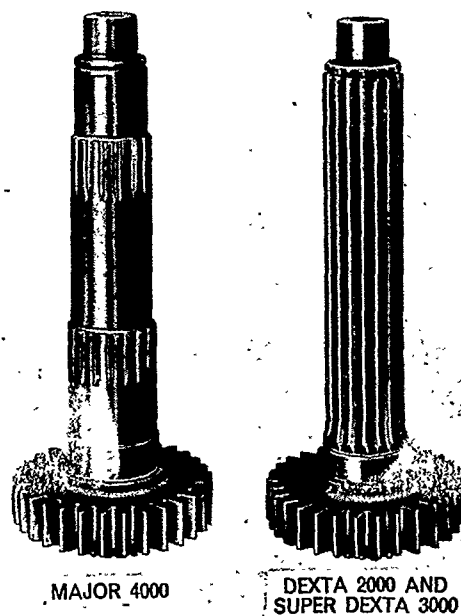

Figure 5
2. The mainshaft has three different working diameters, Figure 5, and is only splined in two locations to accept the gear shift connectors. The gears supported by the mainshaft have internal bushings.